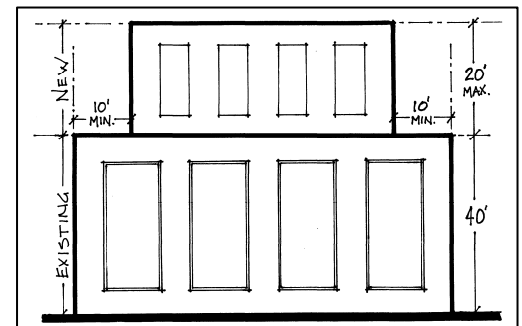

Figure 3 – Height Limits for Existing
- New floors added to existing buildings should not be more than $\frac{1}{2}$ the height of the building on which it is placed. (Fig. 3)
- New floors should be set back from the exterior wall of the building on which it is placed a minimum of $\frac{1}{2}$ the height of the new floor. (Fig. 3)